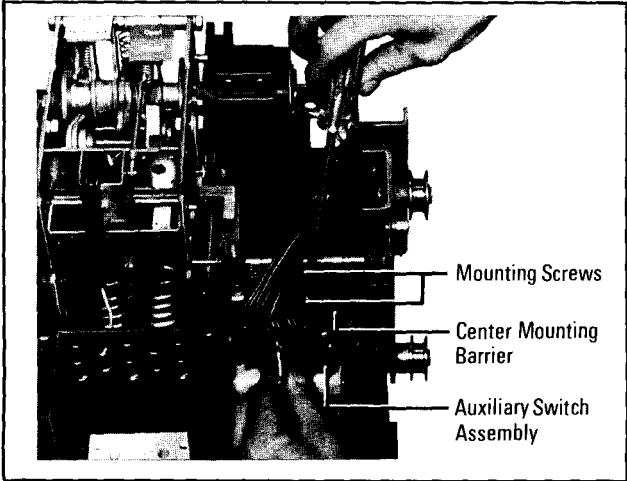
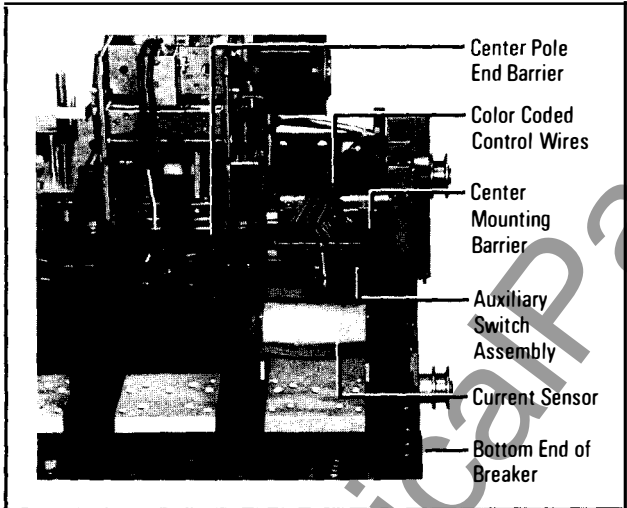

Fig. 4 Installation of Auxiliary Switch Assembly
Fig. 5 View of Auxiliary Switch Assembly Installed with Front Cover and End Barrier Removed
3. Mount the switch assembly to the center mounting barrier as shown in Fig. 4, using two panhead screws (0.138-32 x 0.375) and lockwashers. A completed assembly is shown in Fig. 5.